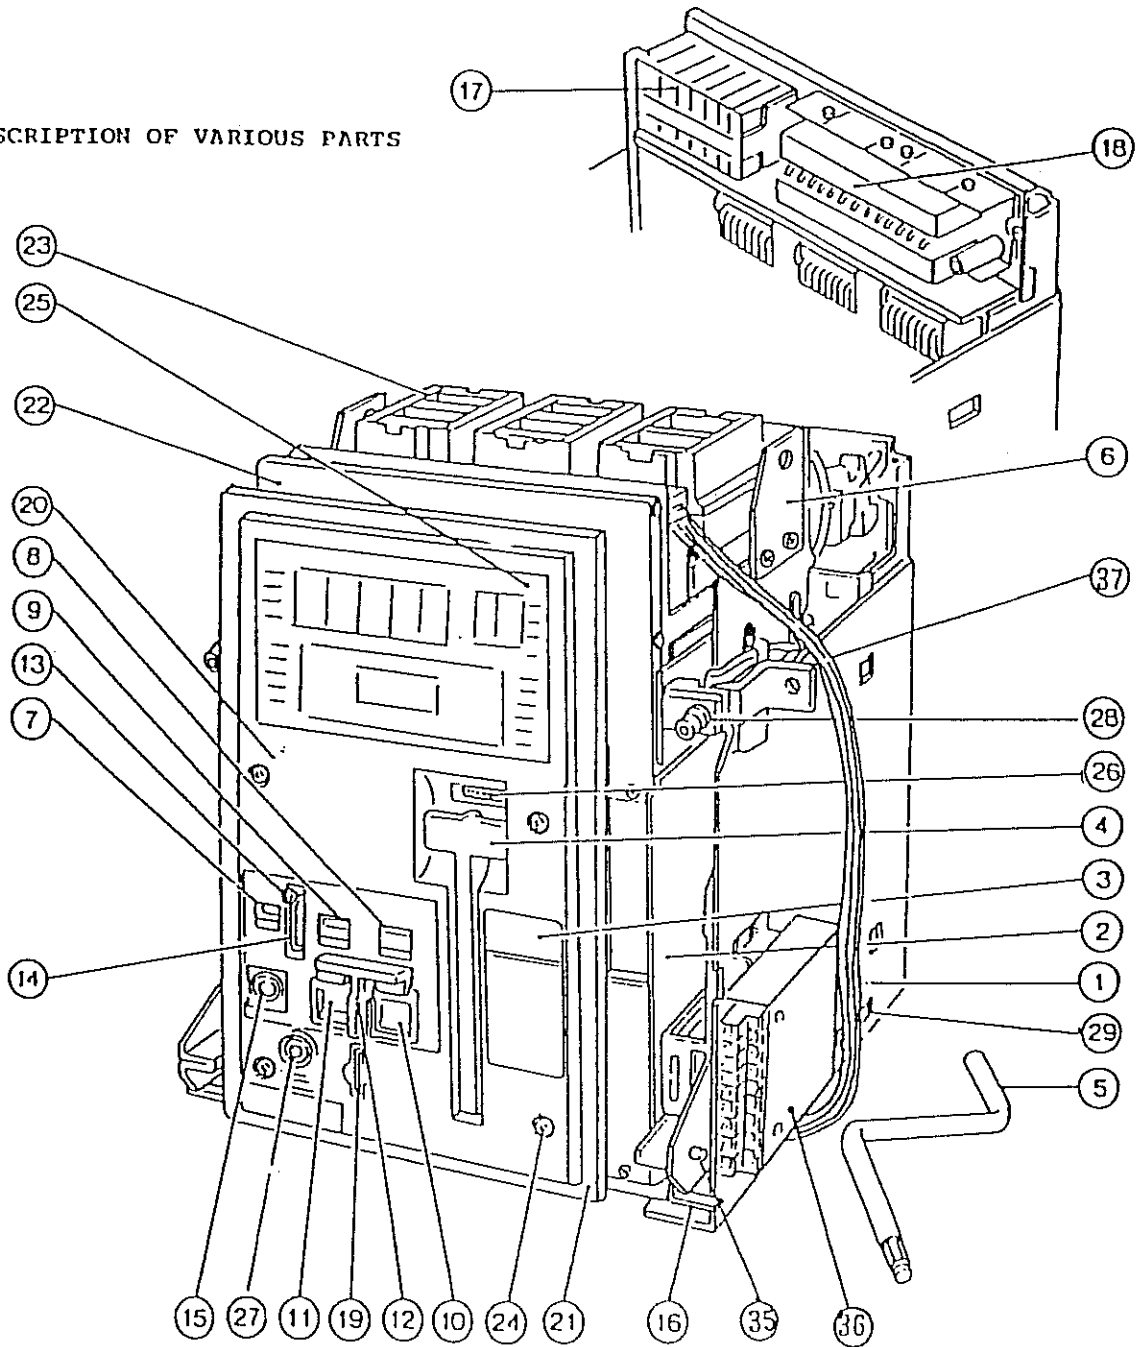

Fig. 1. General view of TemPower AT series air circuit breaker.
- ⊙ When lifting up the breaker, apply wire ropes to the lifting plates (Fig. 1 (6)). Take the necessary care so that the tightened wire ropes will not touch the arc chutes (Fig. 1 (23)) and multi-protective device (Fig. 1 (25)). When lifting up the breaker, be sure to lift up it slowly.
Numbers in ( ) correspond to the locator numbers in Fig. 1.
Upon satisfactory confirmation of the above items, open manual operation button cover (Fig. 1 (12)) upward if provided and press the PUSH TO CLOSE button (Fig. 4b (10)). The breaker is closed. The OPEN-CLOSED indicator (Fig. 4b (8)) shows "CLOSED", and the spring charged indicator (Fig. 4b (9)) shows "DISCHARGED".